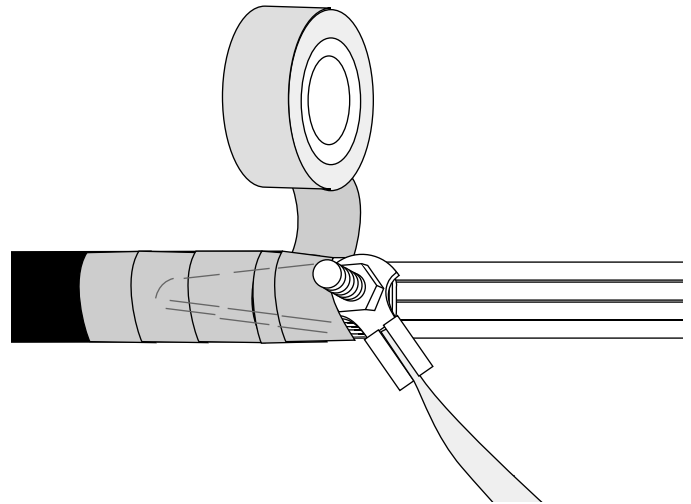

Figure 32
- d) Cover the grounding clamp and split portion of the sheath with vinyl tape (Figure 32).